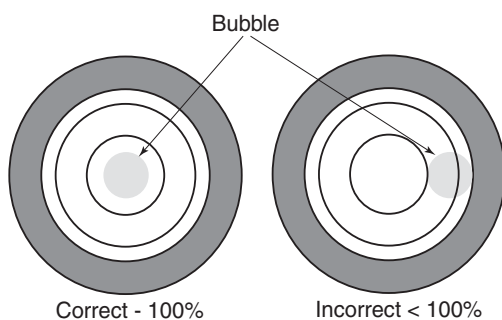

Figure 1-12 Bubble Level Centering
The bubble levels are located on both ends of the gantry stationary base, near a point where the rotating structure pivots mount to the base structure. (See Figure 1-10.) The gantry is properly leveled when the bubble is centered. (See Figure 1-12, on page 39.)
- 3.) When the bubble levels are centered (Figure 1-12), each of the four (4) leveling pads should be carrying a portion of the gantry weight. Distribution of the gantry weight prevents the base frame from rocking during normal operation. **DO NOT leave any adjuster un-loaded or floating.**